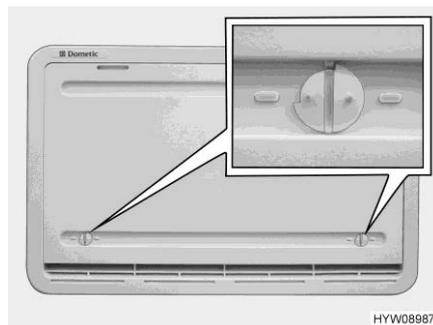

Fig. 241 Winter cover
If the refrigerator is to be operated at low external temperatures, the manufacturer recommends the use of a winter cover (Fig. 241) for the refrigerator ventilation grills.
- Open both locks (Fig. 241) (groove in horizontal position).